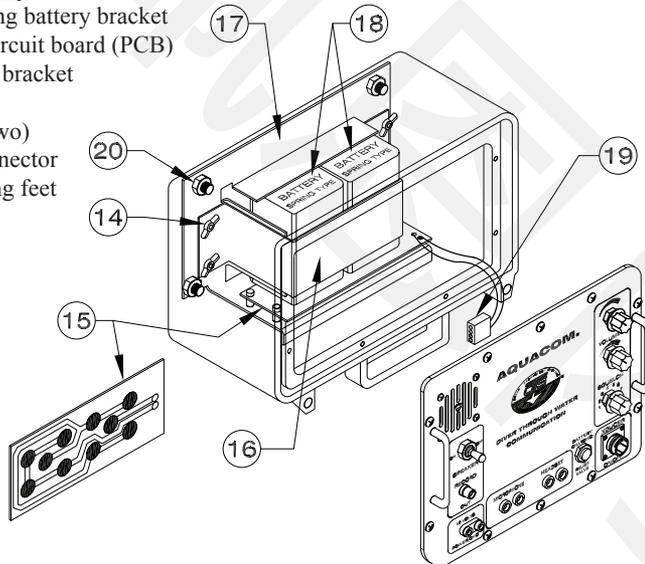
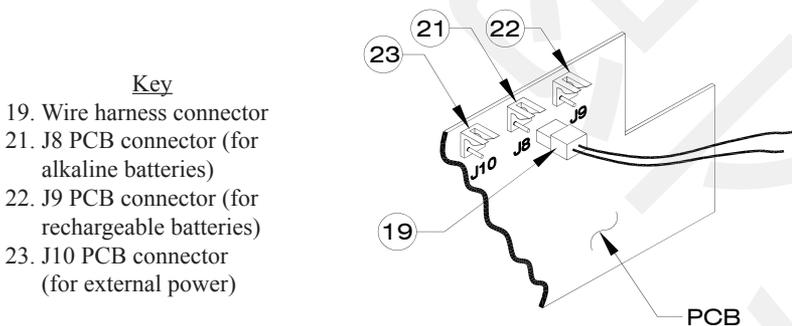

Figure 2. Battery System
Figure 3. Connection of Battery Wire Harness
3. Remove and set aside the wing nuts (Fig. 2, #14).
4. Remove and set aside the battery-retaining bracket (Fig. 2, #16).
5. Insert two lantern batteries, battery springs facing toward the battery printed circuit board (Fig. 2, #15). Ensure they are firmly seated in the bottom of the battery bracket housing.
7. Ensure the wire harness is plugged into the correct connector on the printed circuit board (Fig. 3). When *alkaline* batteries are used, the harness (Fig. 3, #19) must be plugged into receptacle J8 (Fig. 3, #21). When *rechargeable* batteries are used, the harness must be plugged into J9 (Fig. 3, #22). **If this procedure is not followed properly, damage may occur.** If you are trying to charge batteries with the harness plugged into the wrong socket, the charger's current will not be channeled to the batteries. It is also important you do not try to charge alkaline batteries.
8. While the unit is open, you may want to verify that the four screws securing the feet and the battery plate assembly are tightly secured (Fig. 2, #20).
IMPORTANT NOTE: *The silver pads located on the battery printed circuit board (Fig. 2, item #15) are configured to accept the spring contacts found on a 6-volt, spring-type lantern battery at any axis at which the 6-volt lantern batteries are installed. The spring contacts of the batteries must be in contact with the printed circuit board in order for the system to work. Installing the batteries in the wrong direction (spring contacts away from the printed circuit board) may cause damage to the unit or batteries, and/or the STX-101/M/SB will not operate.*
When utilizing the optional RB-6V sealed lead-acid battery, you will attain the maximum performance of self-contained batteries (two are required). The STX-101M and STX-101SB come standard with two RB-6V batteries. Install the batteries per the instructions found in Section 2.2. When using or charging the RB-6V batteries, ensure the power harness in the battery compartment (Fig. 2, #19) is connected to J9 (Fig. 3, #22) on the circuit board. This channels the charger's current to the batteries.
- **Before charging the batteries, verify that they are RB-6V rechargeable batteries, the vent is open, and the internal plug is connected to the proper connector (Fig. 1, #7 and Fig. 3, #22).**